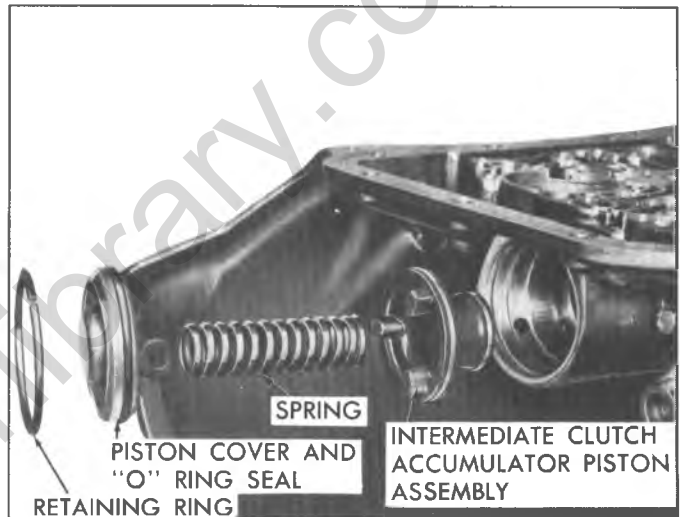

Fig. 51M--Intermediate Clutch Accumulator Components
29. Remove intermediate clutch accumulator piston assembly. (fig. 51M).